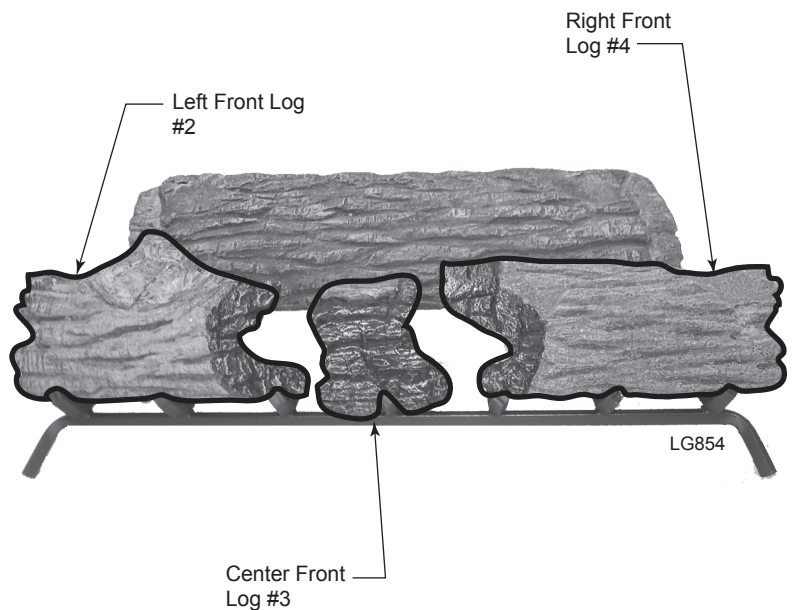

Figure 36 - Place Front Logs
3. Place front left log #2 in front of the plate and to the left. *Figure 36*
4. Place center front log #3 on middle grate prong. *Figure 36*
5. Place front right log #4 in front of the plate and to the right. *Figure 36*